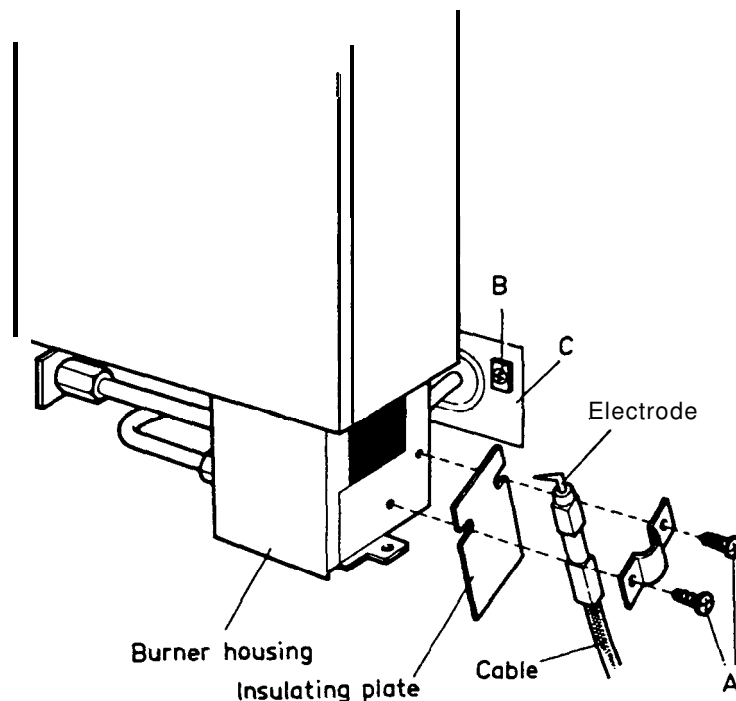

Fig. 78
2. **Loosen** fastening screw "A" (Fig. 78) holding the electrode against side of burner housing.
CAUTION: When fastening the electrode on the burner housing make sure that the insulation plate is properly fitted between the burner housing and the electrode (see fig. 78).
3. Loosen the fastening screw "A" (Fig. 78) holding the electrode against side of burner housing.